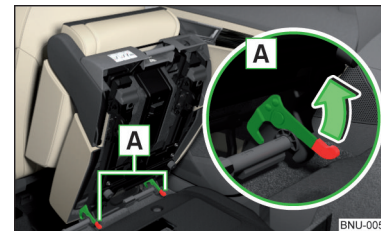

Fig. 94 Locking seats
- › Lock the seat at the end of the guide rods by pressing the seat locks [A] in the direction of arrow » Fig. 94.
- ▶ If the seat has been removed, first position it on the guide rods and lock it in place with the seat locks **A** » Fig. 94 on page 89. Pull the seat upwards to ensure that the seat is locked correctly.